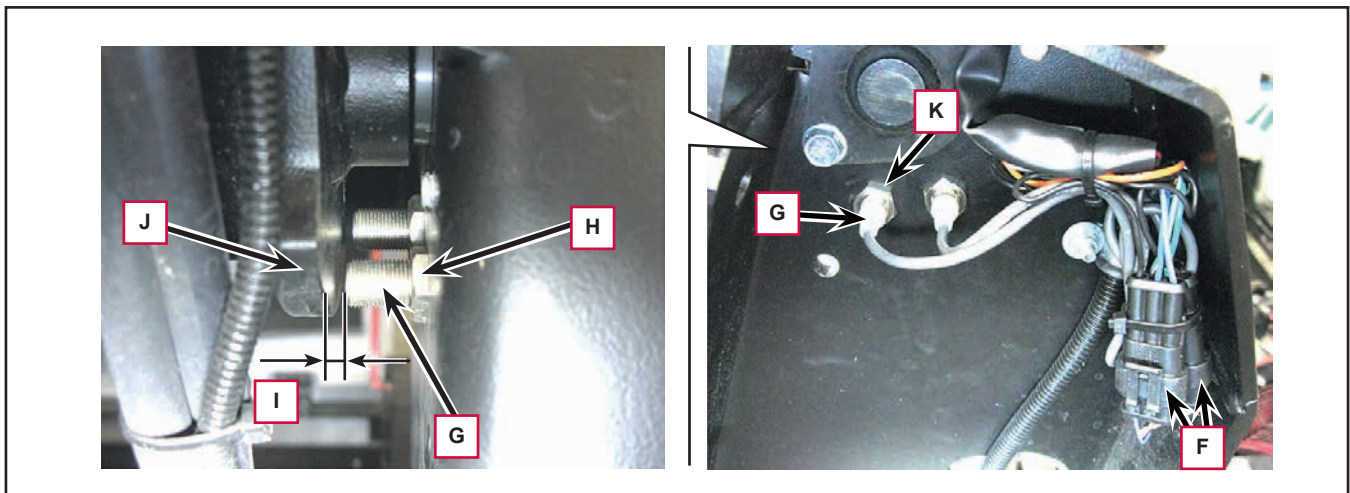

Figure 8
2. Free up and disconnect the electrical connection (F, Figure 8) of the hopper lifted sensor (G).
3. Unscrew the nut (H) and remove the sensor (G) with wiring.